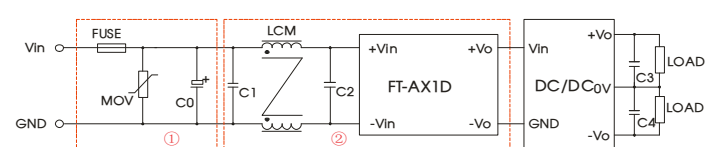

Fig. 4
RE	CISPR32/EN55032 CLASS A (see Fig. 4-② for recommended circuit)
EFT	IEC/EN61000-4-4 $\pm 2\text{kV}$ (see Fig. 4-① for recommended circuit) perf. Criteria B
Surge	IEC/EN61000-4-5 $\pm 2\text{kV}$ (see Fig. 4-① for recommended circuit) perf. Criteria B